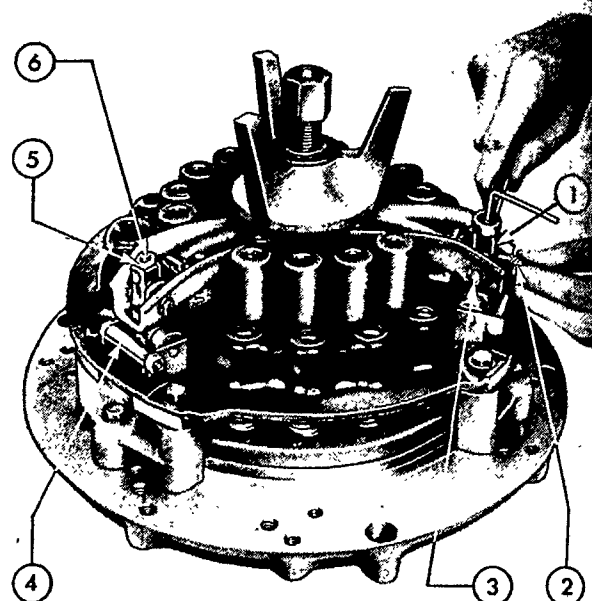

Figure 61
18. Being sure that the gauge spacer assemblies are in position, back off the spindle nut until it clears the thrust washer as shown in Figure 61. Position the center link so the adjusting screw in the top of the link is centered over the strut then insert the Gauge Pin Tool No. SW510-7, through the link as shown. Loosen the adjusting screw nut, and turn the adjusting screw as required until a slight drag is felt on the gauge pin when the pin is rotated. Do not obtain the “feel” by pushing or pulling on the gauge pin. The “feel” between the strut and adjusting screw should be equal on each link.
19. Lock the adjusting screws, Figure 61, in place with the adjusting screw nuts and re-check the “feel”. If necessary, re-adjust until the “feel” is the same on each link.
20. After the links are adjusted, tighten the spindle nut, Figure 61, just enough to relieve the tension on the spacer assemblies. Remove the spacers, then remove the spindle nut, the thrust washer, and the bridge.